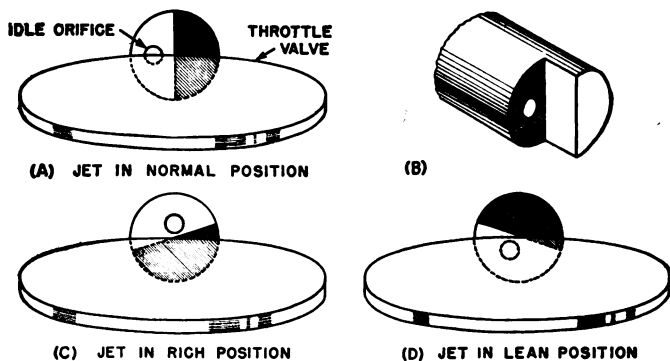

Figure 43.—Diagram showing action of idling device.
With the jet in its normal position, figure 43, view (A), half of the open segment of the plug, view (B), is above the edge of the throttle valve, and the other half is below the edge. The upper end of the opening is in communication with the partial vacuum in the manifold above the throttle valve, and the lower end is open to the inside of the carburetor below the throttle valve. The suction in the manifold causes air from below the throttle valve to pass in through the open
As the throttle is opened the area of the opening above the throttle valve is increased, and that below the valve is decreased, figure 43, view (C). As the amount of air flowing past the partly opened throttle has increased, the greater amount of fuel taken in through the upper opening is sufficient to form a combustible mixture necessary for the increased speed of the engine. The size and shape of the idle bypass can be adjusted by regulating the exposure of the
The mixture required for extremely low speeds is excessively rich, but as the idle speed is increased the mixture gradually is reduced to normal. The plug may be turned through a definite angle by means of the idle-control lever, which can be locked in different positions by a spring-loaded pin that fits into holes or notches in the quadrant. In this way the strength of the idle mixture may be controlled from the full-rich position, figure 43, view (*C*), to the full lean position, view (*D*), since turning the plug regulates the upper and lower positions of the openings, and consequently controls the ratio of gas to air to obtain the proper mixture.